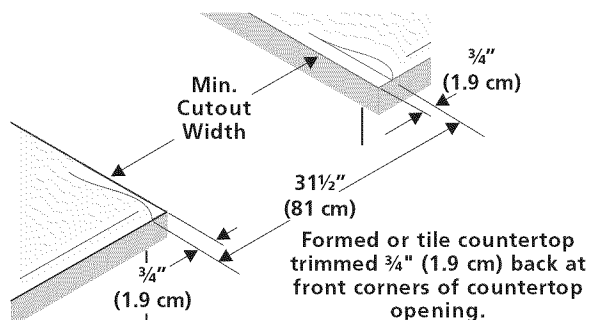

Figure 2
- **Formed front-edged countertops** must have molded edge shaved flat $\frac{3}{4}$ " (1.9 cm) from each front corner of opening (Figure 2).
- **Tile countertops** may need trim cut back $\frac{3}{4}$ " (1.9 cm) from each front corner and/or rounded edge flattened (Figure 2).